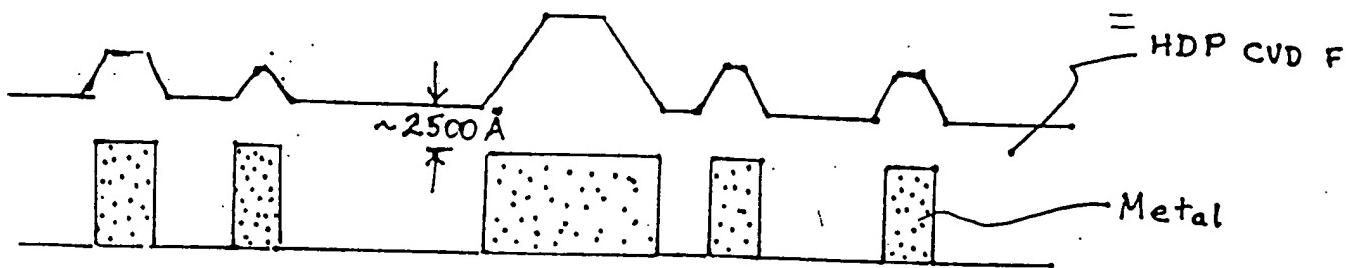

Fig. 1 - After HDP CVD FSG Deposition
**Detailed Description:** Fig. 1 shows a cross-section of the metal level after the gapfill FSG deposition by HDPCVD. The thickness of oxide on top of metal will vary according to metal linewidth, with the wide lines (above a certain dimension) having the full oxide thickness. The wafer is then polished using high planarity conditions, to remove an equivalent blanket oxide thickness of about 1500 Å. This step reduces significantly the oxide peaks on top of metal, without exposing metal lines. State of the art CMP tools can produce this result consistently in a manufacturing environment. After the first CMP step, a second (undoped) oxide layer is deposited, and a second CMP step done to fully planarize the structure. If dummy fill patterns are used at metal photo, the second CMP step may not be necessary.